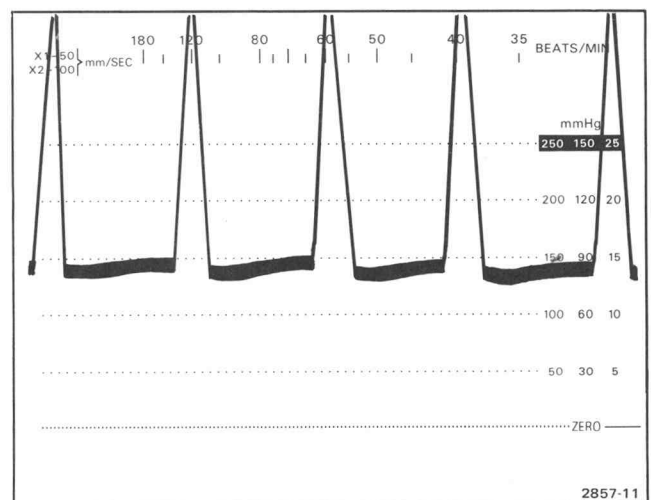

Figure 4-3. Adjusting Horizontal Width and Position.
c. **ADJUST**—Horizontal Position (R671) until rising edge of fourth pulse coincides with 40 bpm graticule mark. See Figure 4-3.
d. **ADJUST**—Horizontal Width (R667) until rising edge of second pulse coincides with 120 bpm graticule mark. See Figure 4-3.